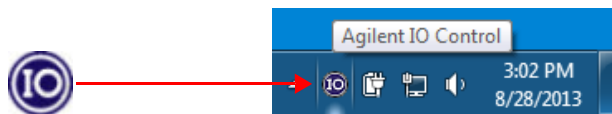

Figure 4 Keysight IO Control icon
- 7 After the installation is completed, you will see the Keysight IO Control icon on your Windows taskbar notification area as shown in **Figure 4.**